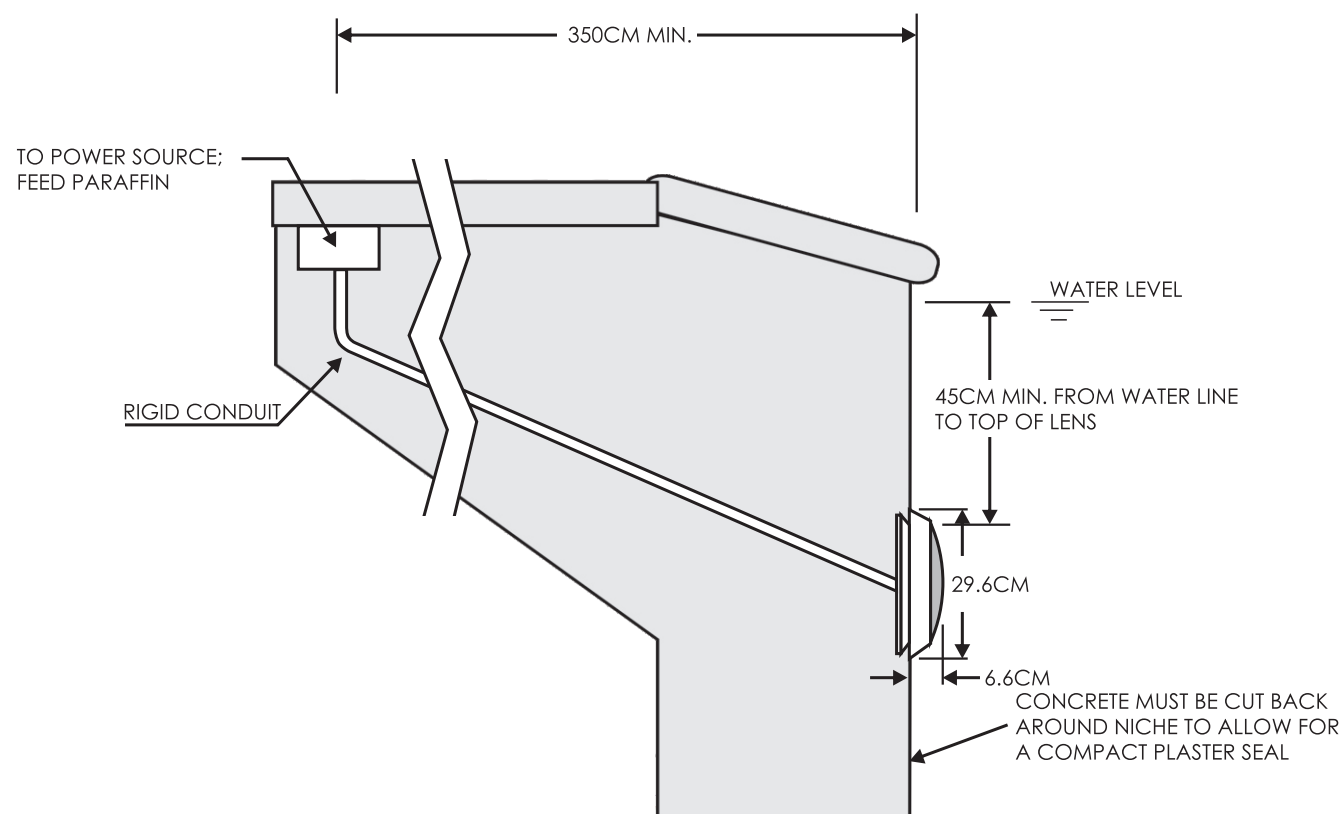

Figure 1.
A) Preparatory steps which must be completed by the electrician before light is installed, see Figure 1.
- a) The junction box, or the low voltage transformer for 12 volt Underwater Light model is to be located at least 350cm from the edge of the pool, see Figure 1.
- e) The mounting bracket must be properly installed so that the top edge of the Underwater Light lens is at least 45cm below the surface of the water in the pool, see Figure 1.
- 1) Locate position on a vertical wall where light is to be installed. The top of the light lens must be 45cm below normal water level, and maximum depth for luminaire is 2.5m, see Figure 1.